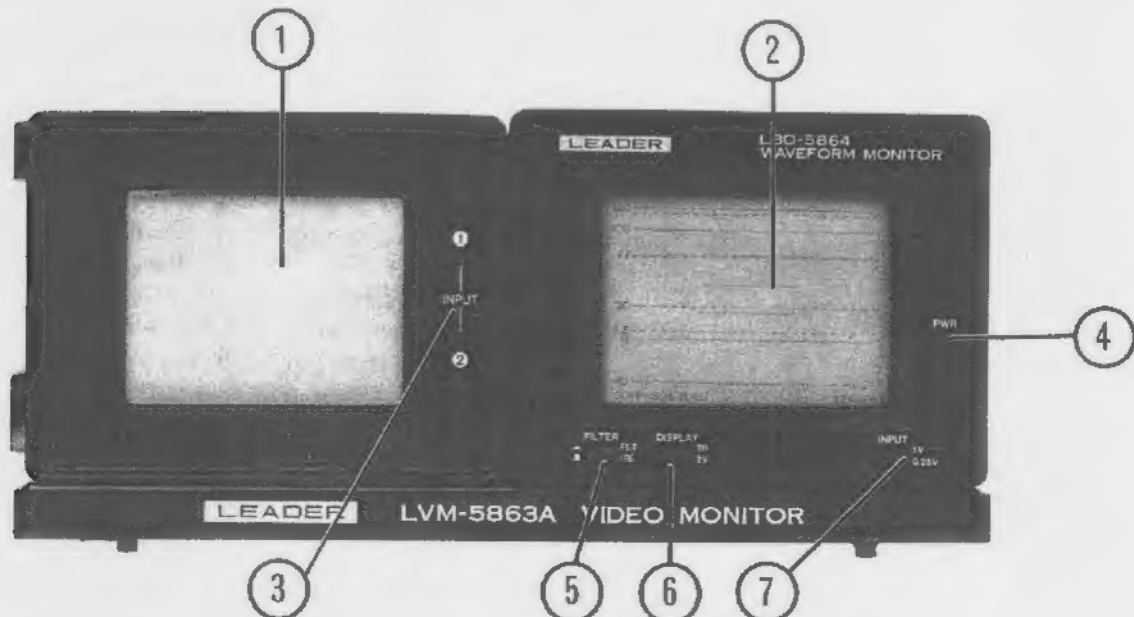

Figure 2-1. Front panel
Before turning on this instrument, familiarize yourself with the controls, connectors, indicators and other features described in this section. The descriptions that follow are keyed to the items called out in Figures 2-1 to 2-4.
Refer to Figure 2-1 for references ① to ⑦
- ① Color CRT Displays full color pictures from NTSC input feeds.
- ② Waveform CRT Displays 2H and 2V video waveforms on an internal graticule graduated in IRE units.
- ③ Input Channel LED's Glows to show which input channel, 1 or 2, has been selected by the INPUT SELECT button (19). One or the other LED also serves as the power-on indicator for the picture monitor section.
- ④ PWR LED Glows to show when the waveform monitor section is on. This LED also serves as the low-battery warning. It flashes when battery voltage falls below 10.5 Vdc.
- ⑤ FILTER switch Alters video frequency response. For the FLT (flat) setting (button in) frequency response is normal. Press to release (button out) to insert a low-pass filter to remove most subcarrier components. Response in the IRE setting complies with IEEE Standard 205-1958.
- ⑥ DISPLAY switch Selects the horizontal time base. Two horizontal lines are shown in the 2H setting (button in). Press to release (button out) to display 2 vertical fields in the 2V setting.
- ⑦ INPUT switch Alters vertical deflection sensitivity. The normal 1V setting (button in) provides the standard sensitivity wherein a 1V p-p signal occupies 140 IRE units. Press the button to release it (button out) to boost sensitivity by a factor of four. This makes the 7.5 IRE units for setup appear at 30 IRE units.